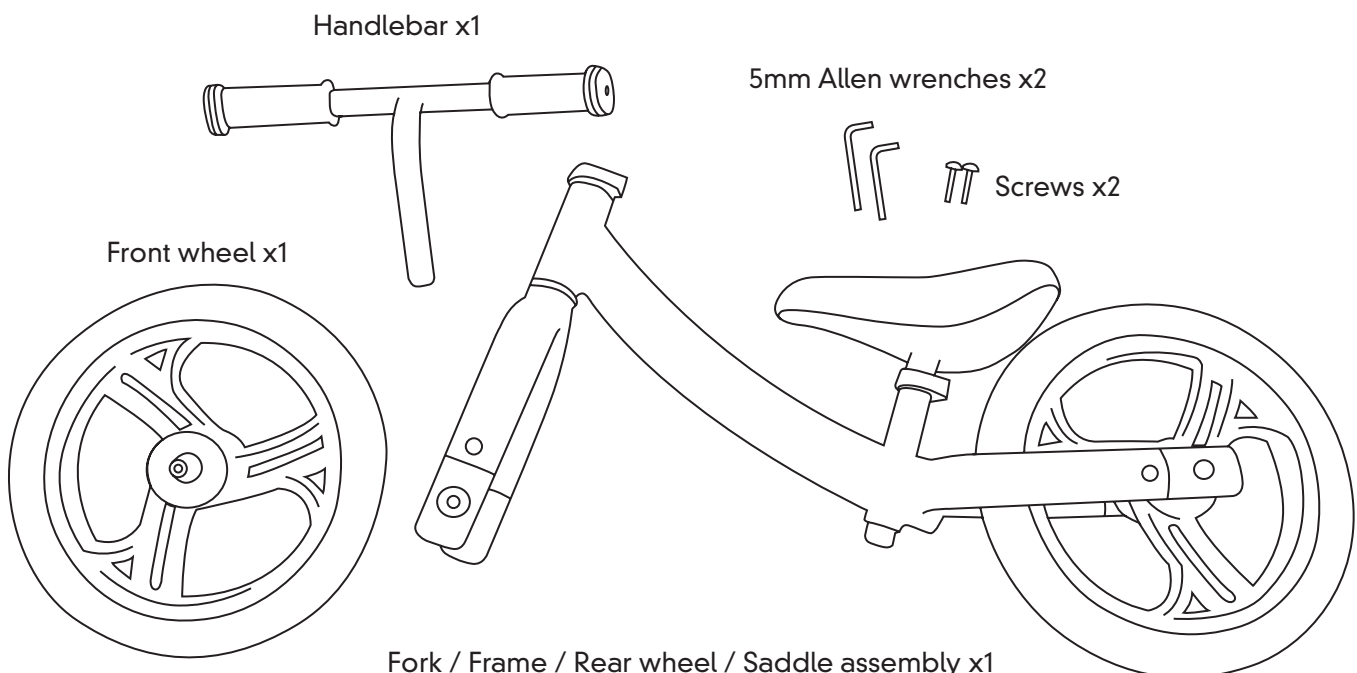

Figure 1
2. Identify the parts (front wheel, fork / frame / rear wheel / saddle assembly, handlebar, 5mm Allen wrenches, screws, and documents [not shown]) with the pictures in Figure 1.